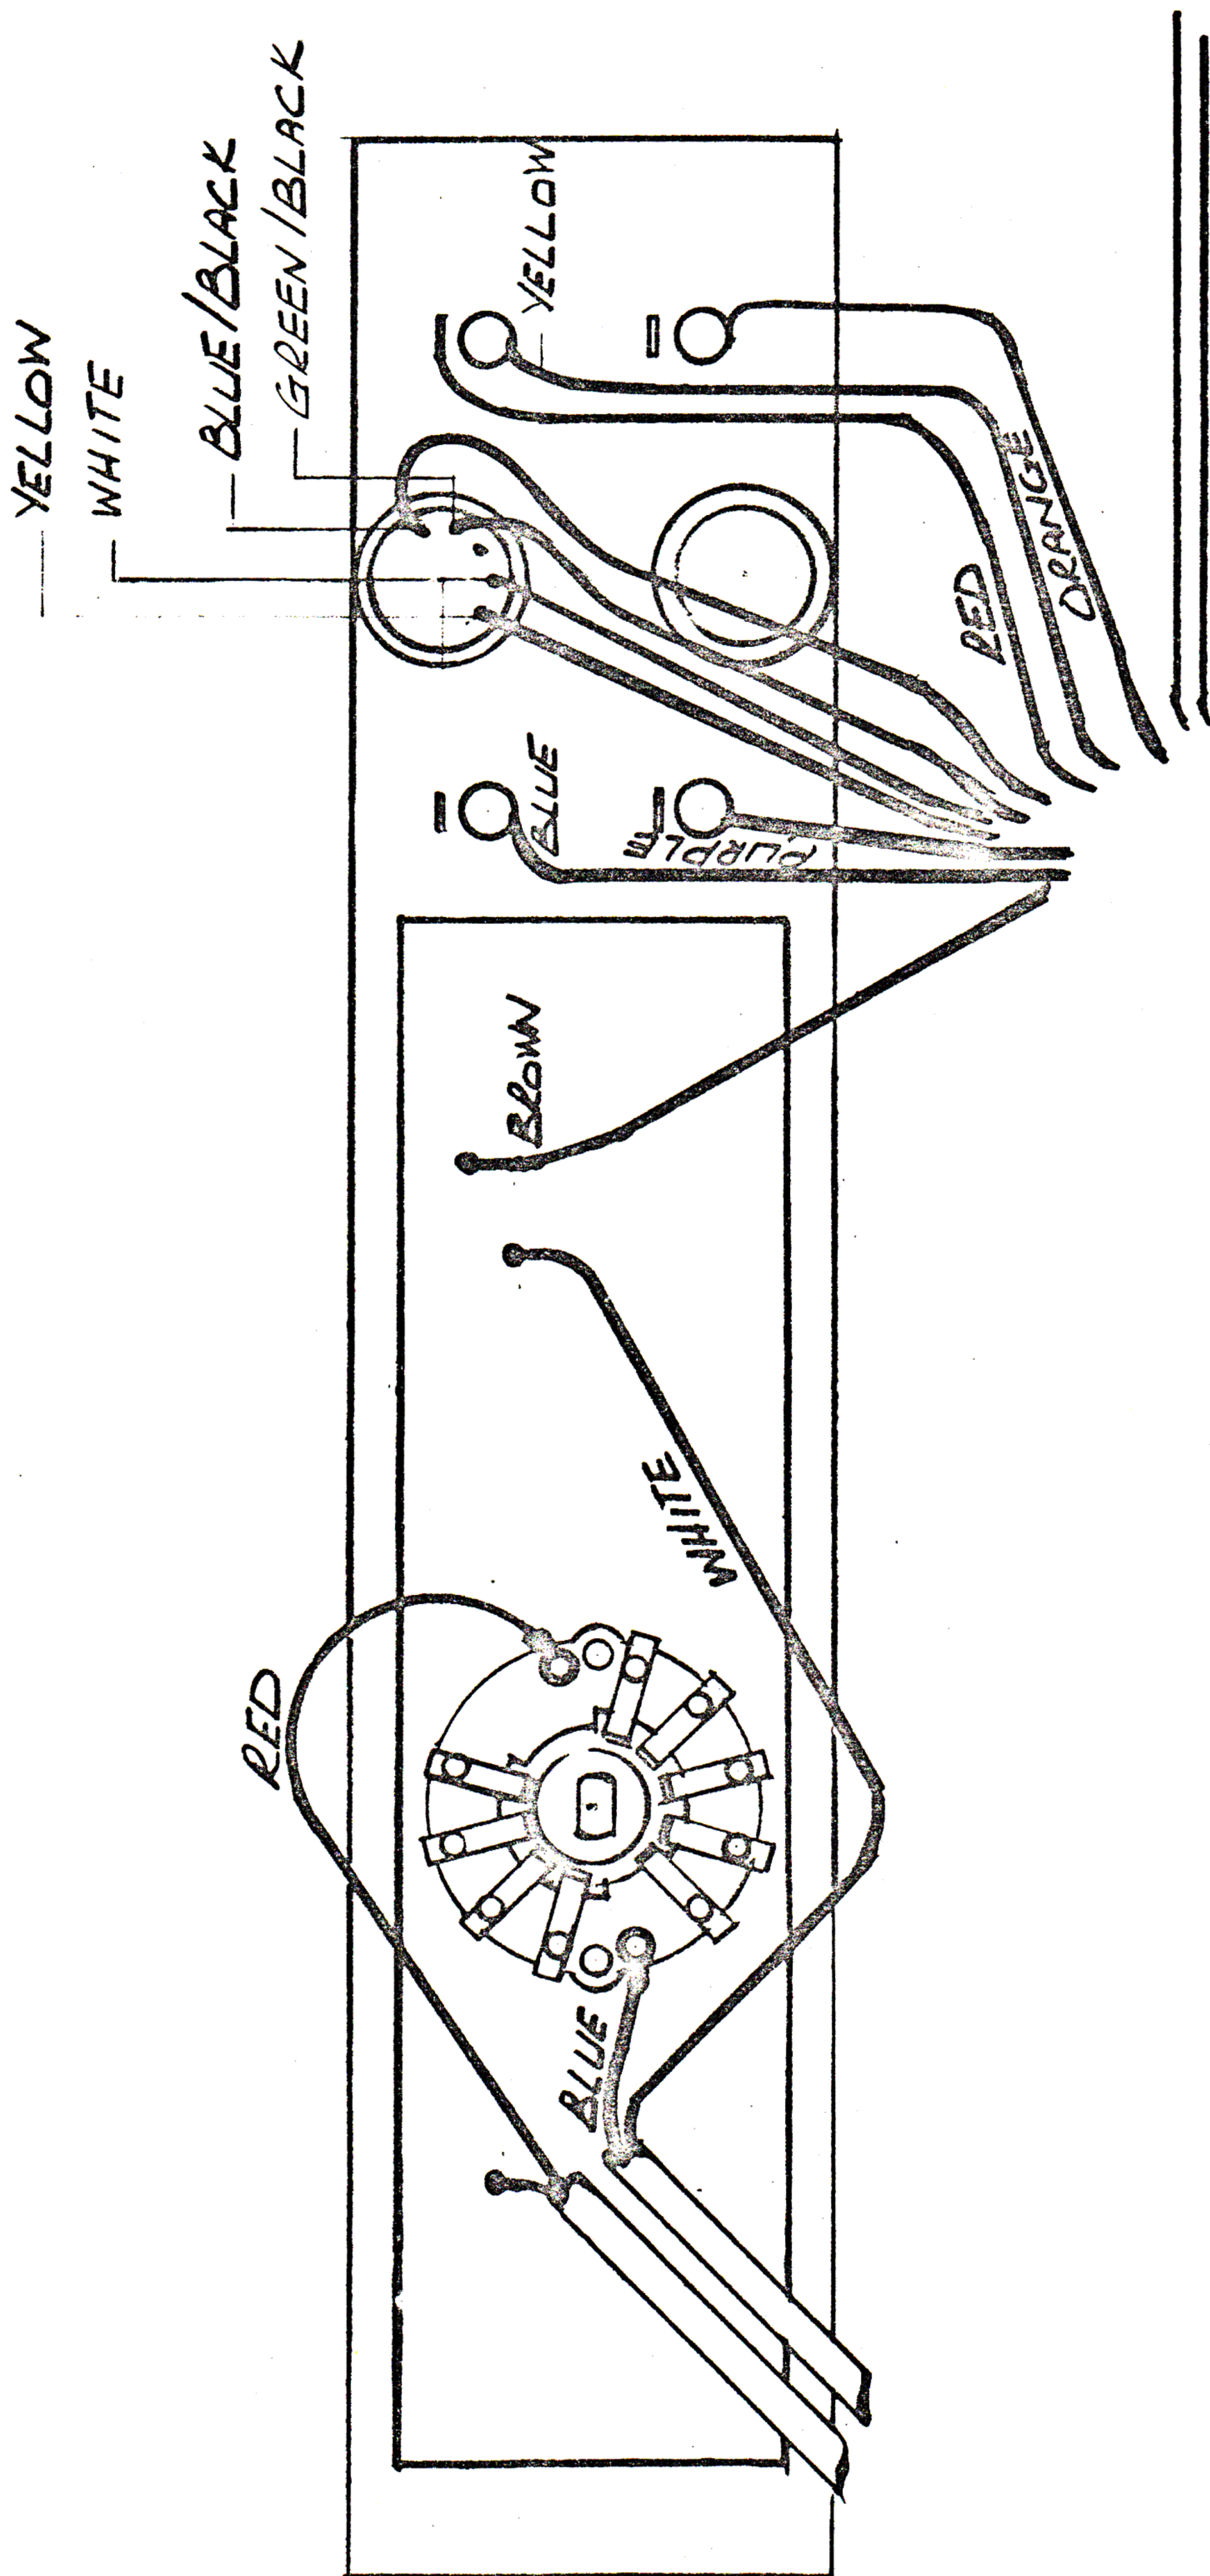

FIG. 1
- Unsolder the leads to the input module ~~checking~~ their colours and connections against fig. 1. There are 14 leads.